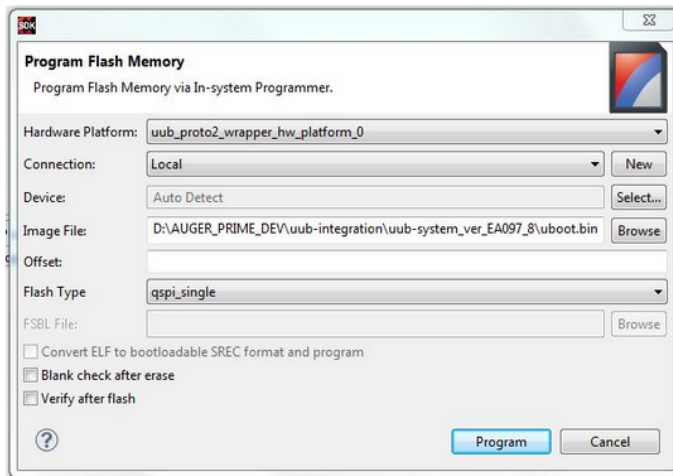

Fig. 6: SDK for programming 'uboot.bin'
- o Check uboot.bin is selected (see Fig. 6). You could also program uub.bin directly but this takes 45 min